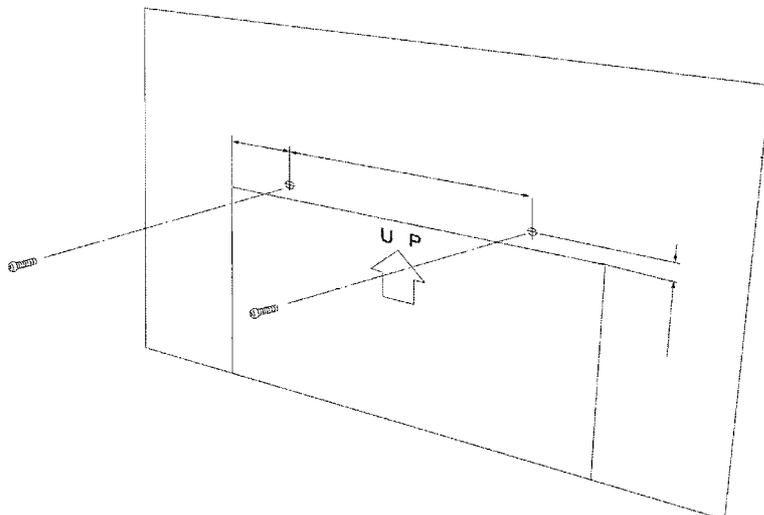

Figure 4-36 Using the Template
1. Using the template and two of the four (locally provided) screws, attach screws to the wall as shown in *Figure 4-36 Using the Template*. Do not thread in the last 3mm of the screws.